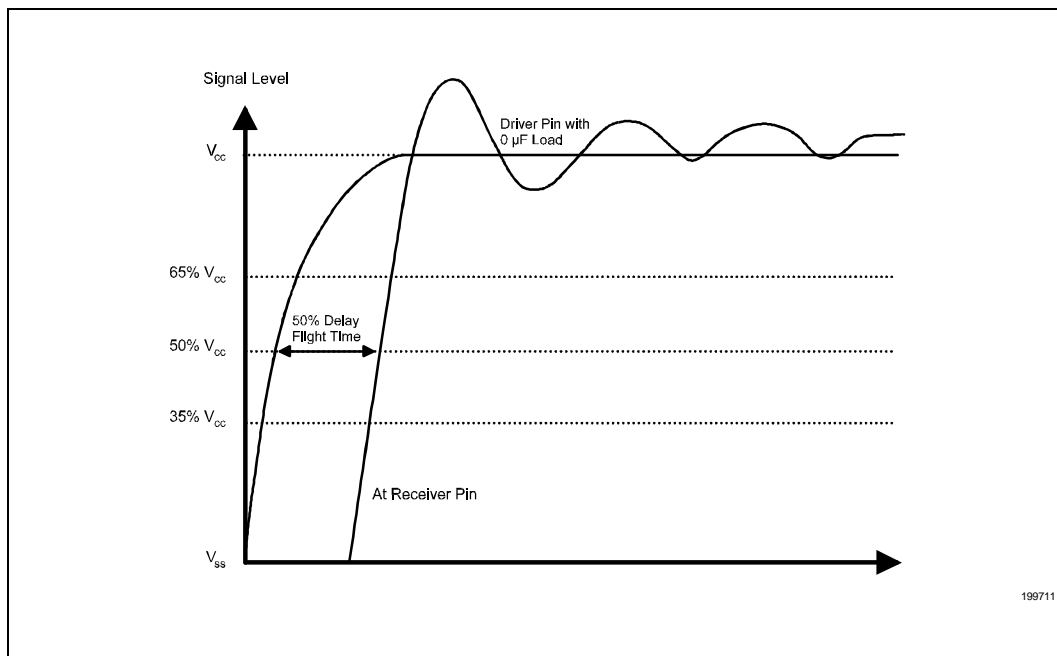

Figure 11. 50% V_{CC} Measurement of Flight Time
29. This is a flight time specification, that includes both flight time and clock skew. The flight time is the time from where the unloaded driver crosses 1.5V (50% of min V_{CC}), to where the receiver crosses the 1.5V level (50% of min V_{CC}). See Figure 11.